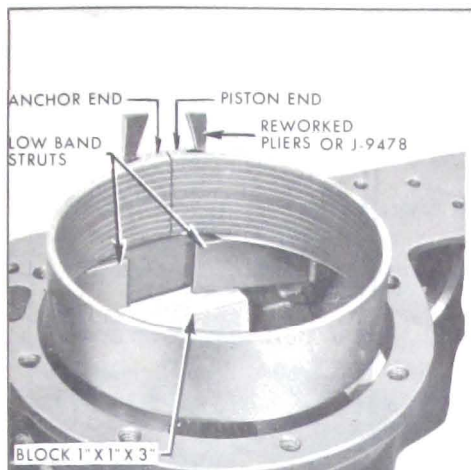

Figure 5-115—Installation of Low Band and Struts
2. With the assembly front end up, install a wooden block (1" x 1" x 3") as shown in Figure 5-115. Set both low band struts in position on block, with outer ends engaging strut shoulder of operating lever and groove in anchor shaft and with inner ends about 3/16" from wall of case. Spread struts as far apart as possible.
3. Compress ends of low band with reworked pliers or Tool J-9478. See Figure 5-115.